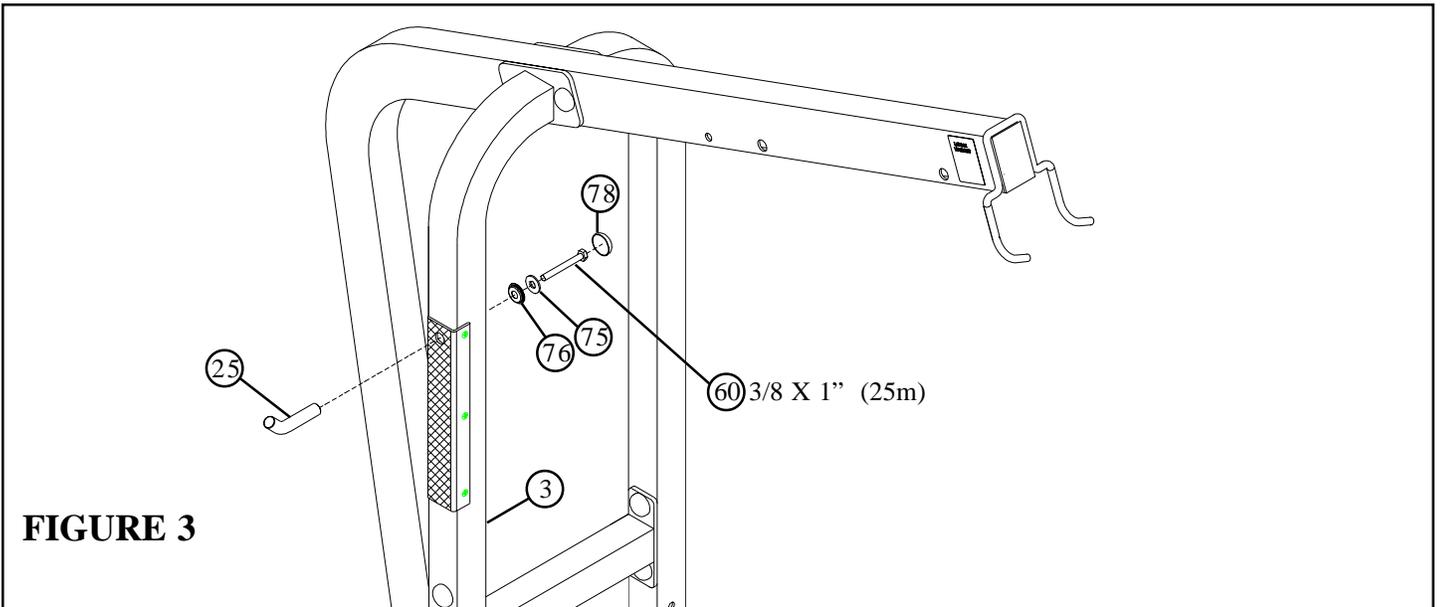

**FIGURE 2**
- **LOOSELY** assemble the LEFT and RIGHT BOOM SUPPORTS (3 & 4) to the BASE (1) using eight RH CAPS (78), four 3/8 X 3-1/2" BOLTS (63), eight 3/8" SAE WASHERS (75), eight 3/8" RH WASHERS (76) and four 3/8" LOW HEIGHT LOCK NUTS (73) as shown in FIGURE 2.
- **LOOSELY** assemble the LEFT and RIGHT BOOM SUPPORTS (3 & 4) to the REAR UPRIGHT (5) using four RH CAPS (78), two 3/8 X 3" BOLTS (65), four 3/8" SAE WASHERS (75), four 3/8" RH WASHERS (76) and two 3/8" LOW HEIGHT LOCK NUTS (73) as shown in FIGURE 2.
- **LOOSELY** assemble the CROSS SUPPORT (70) between the LEFT and RIGHT BOOM SUPPORTS (3 & 4) using eight RH CAPS (78), four 3/8 X 2-1/2" BOLTS (64), eight 3/8" SAE WASHERS (75), eight 3/8" RH WASHERS (76) and four 3/8" LOW HEIGHT LOCK NUTS (73) as shown in FIGURE 2.